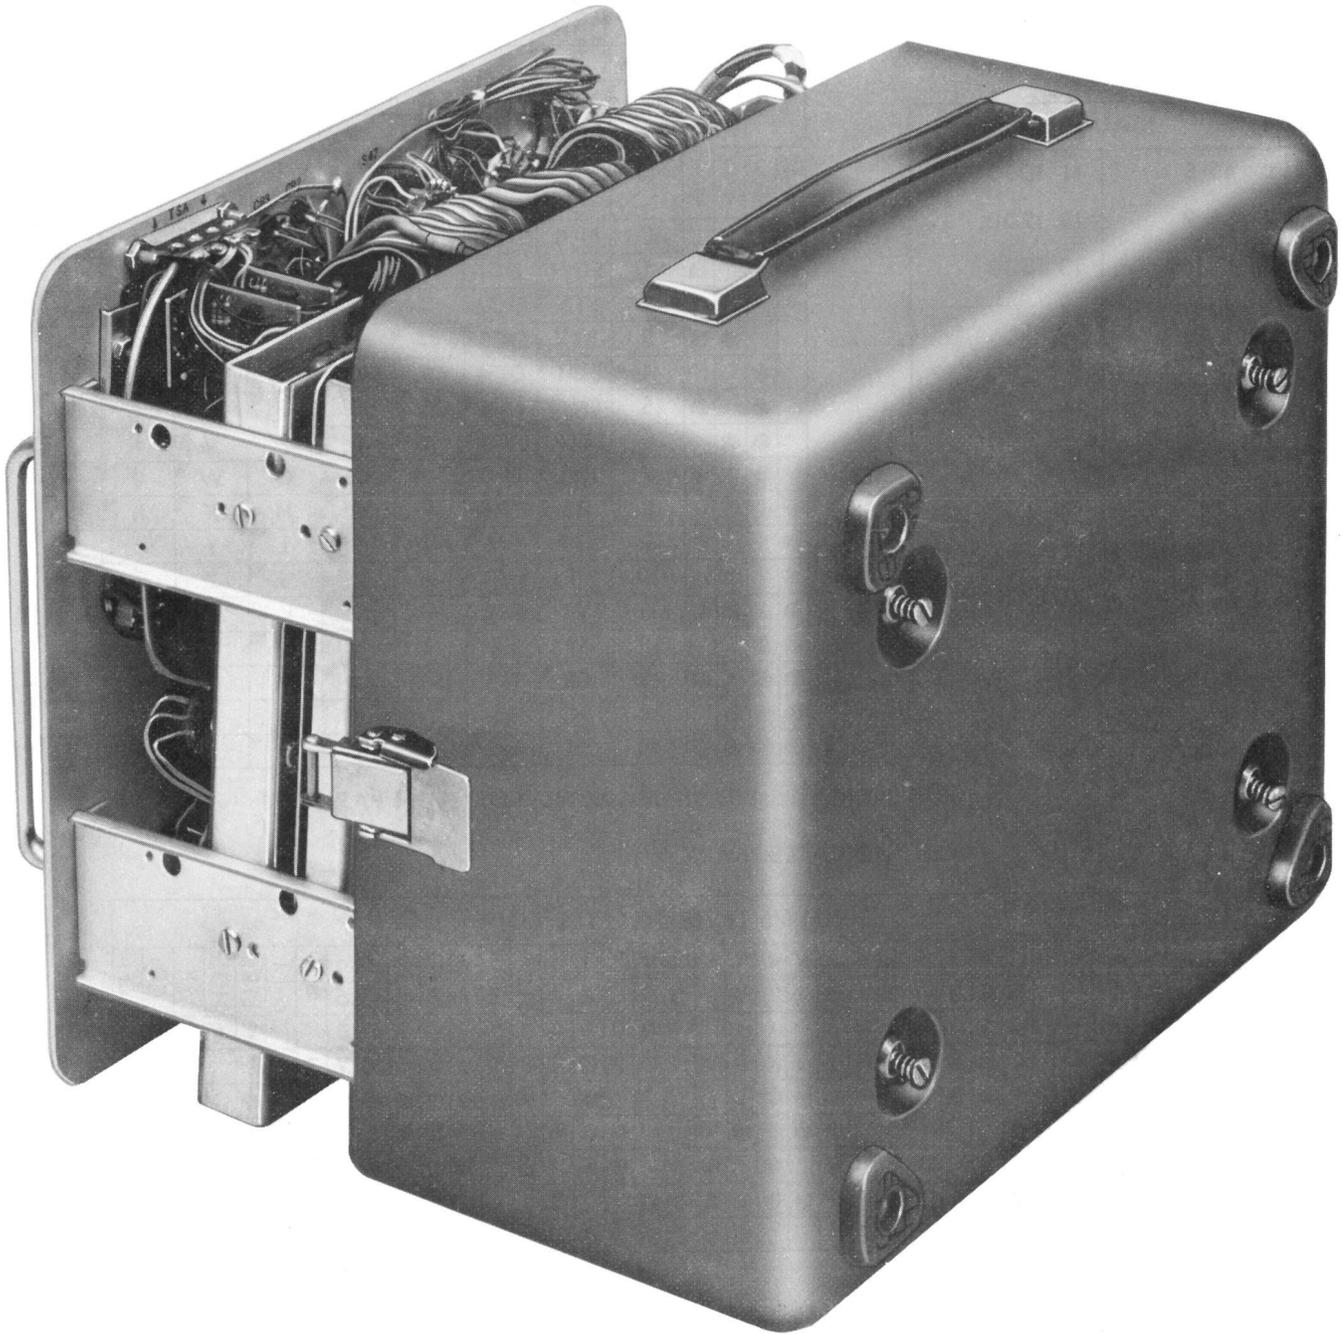
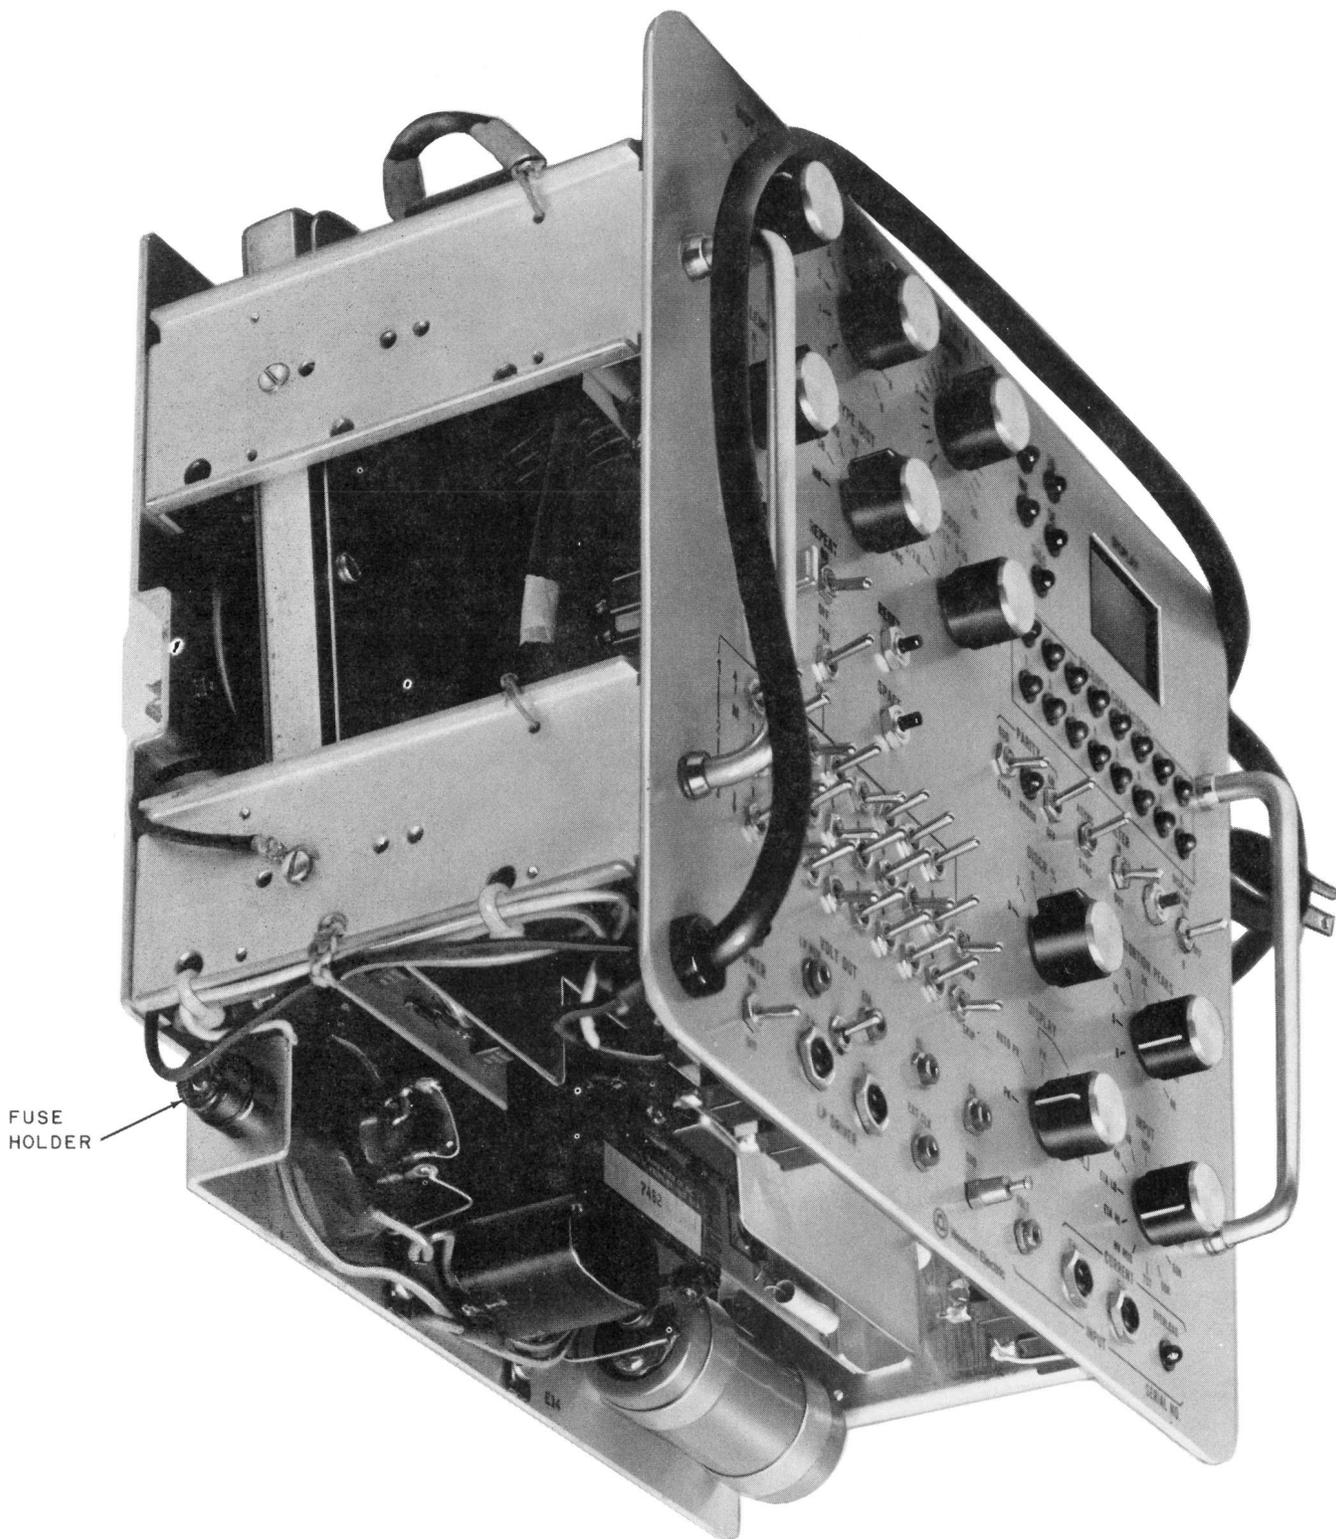

Fig. 5—911NA DTS—Rear Cover Removal
Fig. 6—911NA DTS—Rear Cover Removed
**2.04** The DTS is powered by a self-contained power supply which draws about 40 watts of 105- to 135-volt 50- to 60-Hz commercial power. The power supply is fused with a 1/2-amp fuse that is accessed by turning the four quick-release screws shown in Fig. 5 counterclockwise and removing the DTS from the case. The location of the fuse holder is shown in Fig. 6. Two spare fuses (not shown) are mounted on the rear of the unit.